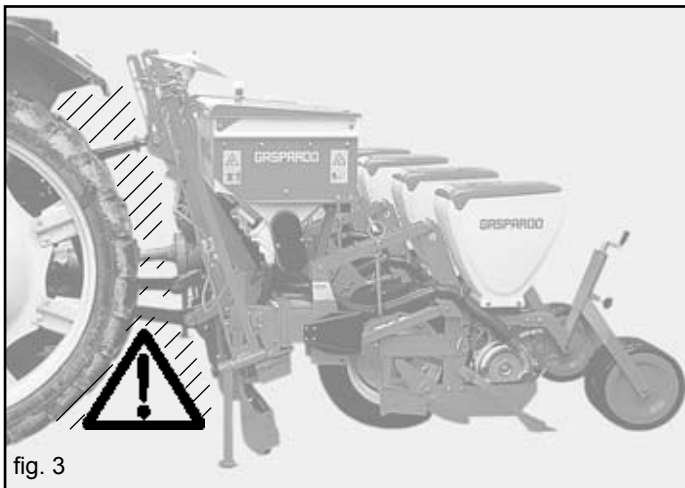

fig. 3
- 6) It is absolutely forbidden to stand in the space between the tractor and the equipment (Fig. 3) with the engine running. It is possible to work between the tractor and the equipment only after the parking brake has been applied and a suitably sized blocking wedge or stone has been placed under the wheels.